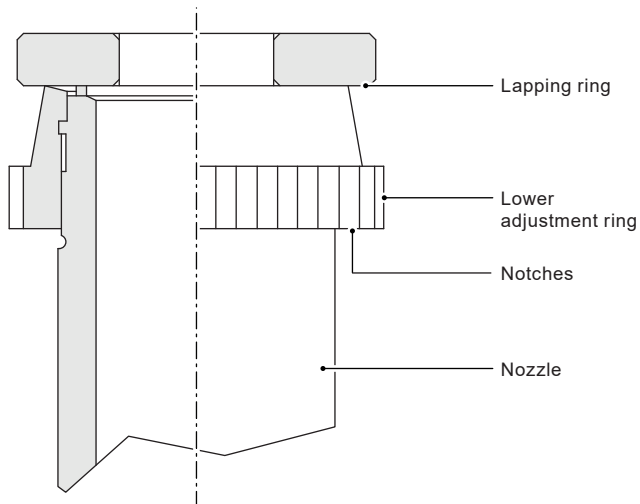

Fig. 6
- 9.1.11** Loosen the lower locking screw (3), moving it slightly away from the lower adjusting ring (7). Place a lapping ring on the sealing surface of the nozzle (6), taking care not to change the position of the lower ring. Turn the lower adjusting ring anti-clockwise and count the number of notches that pass in front of the locking screw until they come into contact with lapping ring (Figure 6). Make a note of this information, as it will help you position the lower ring in the same position as before disassembly.